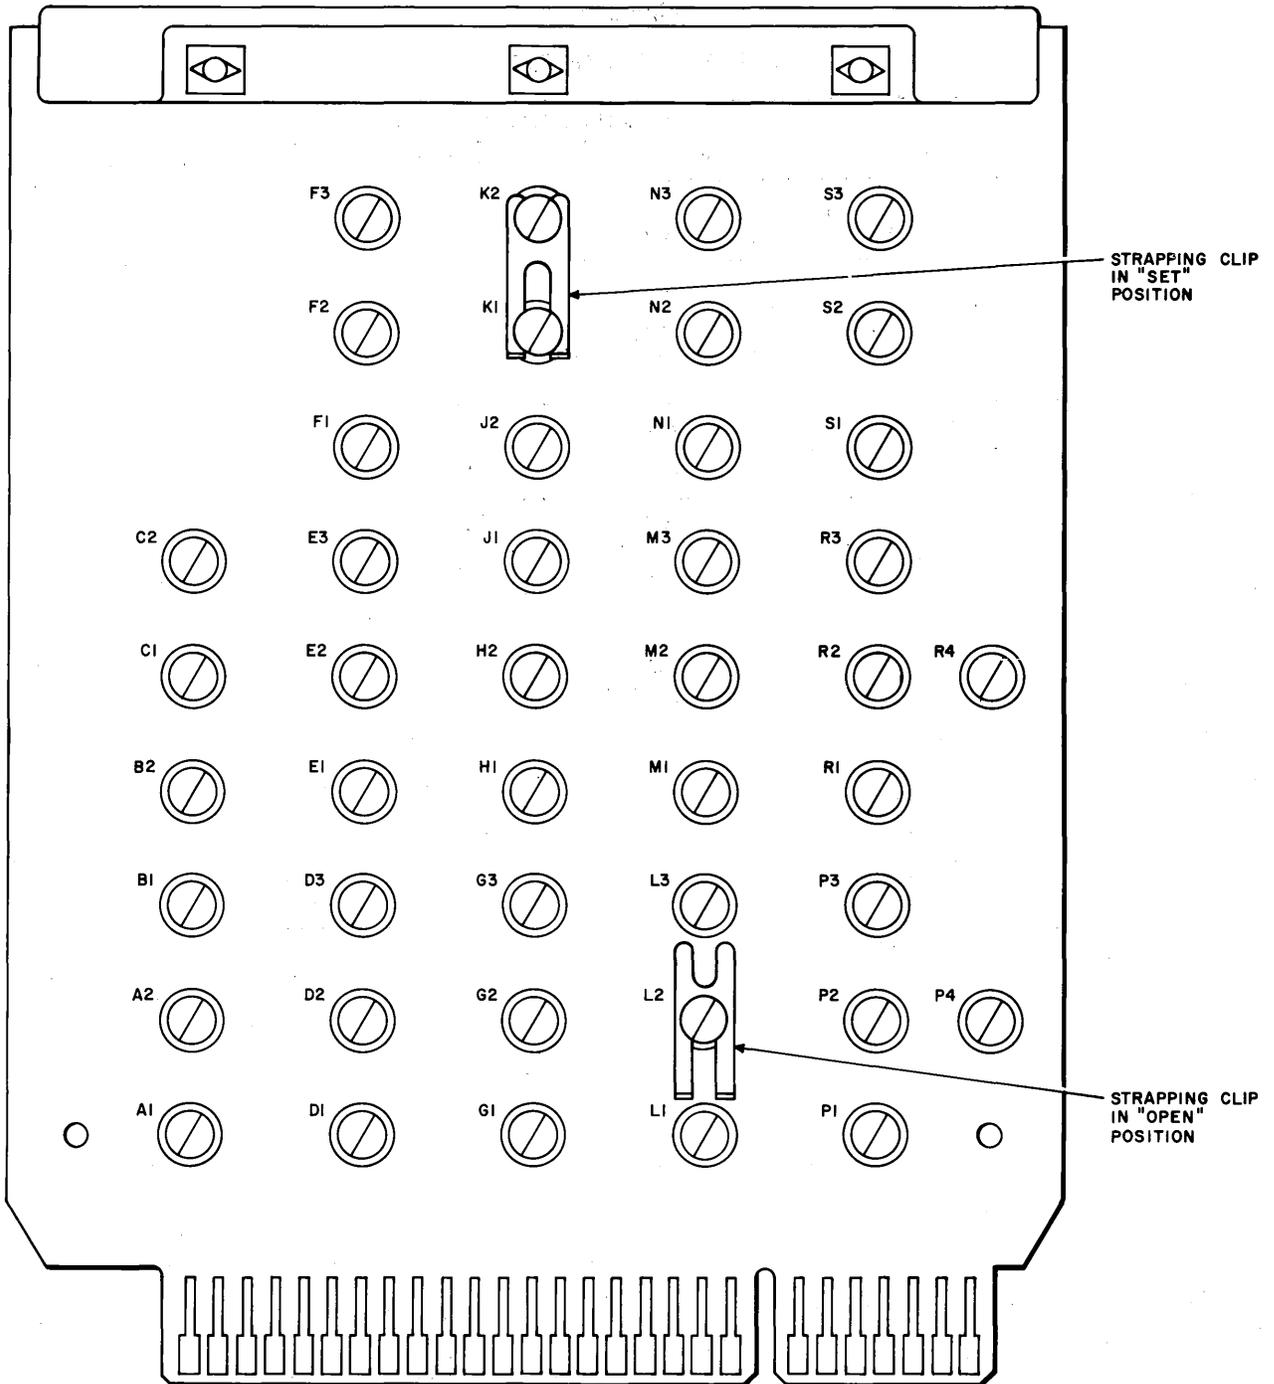

Fig. 16—Data Auxiliary Set 824A1 Option Card (CP AR282) With Strapping Clip Positions Shown
3.10 All connections to DAS 824A1 are made at the rear. Access to the customer's interface cables is made through one of two rectangular access ports in the front and rear center of the base of the cabinet. Interface cables should be dressed neatly up the rear of the cabinet. The customer-provided high-speed data cable is connected to the terminal boards (TB1 and TB2). Specific terminal connections depend on the option installed on circuit pack AR282 (Fig. 16). Each option is assigned a letter (V, W, X, Y, or Z) designated for reference purposes and each results in a different station arrangement.